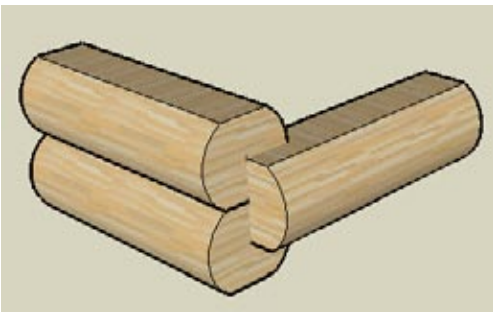

Figure 3-66
2. Move this rotated log down midway between the other two, as shown in Figure 3-66. This is where the construction point comes in handy; you can use it as the first move point.